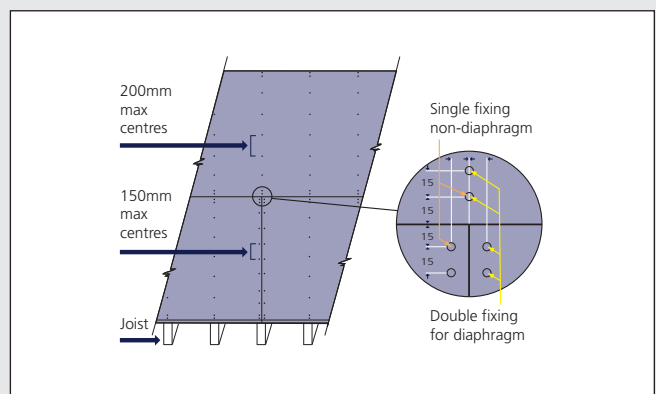

Figure 4
- For diaphragms, double fixings are required as shown in Figure 4. The maximum joist spacing is 450mm and sheet end joints must be staggered. **Please Note:** Screw fixing is currently acceptable for non-diaphragm applications only.